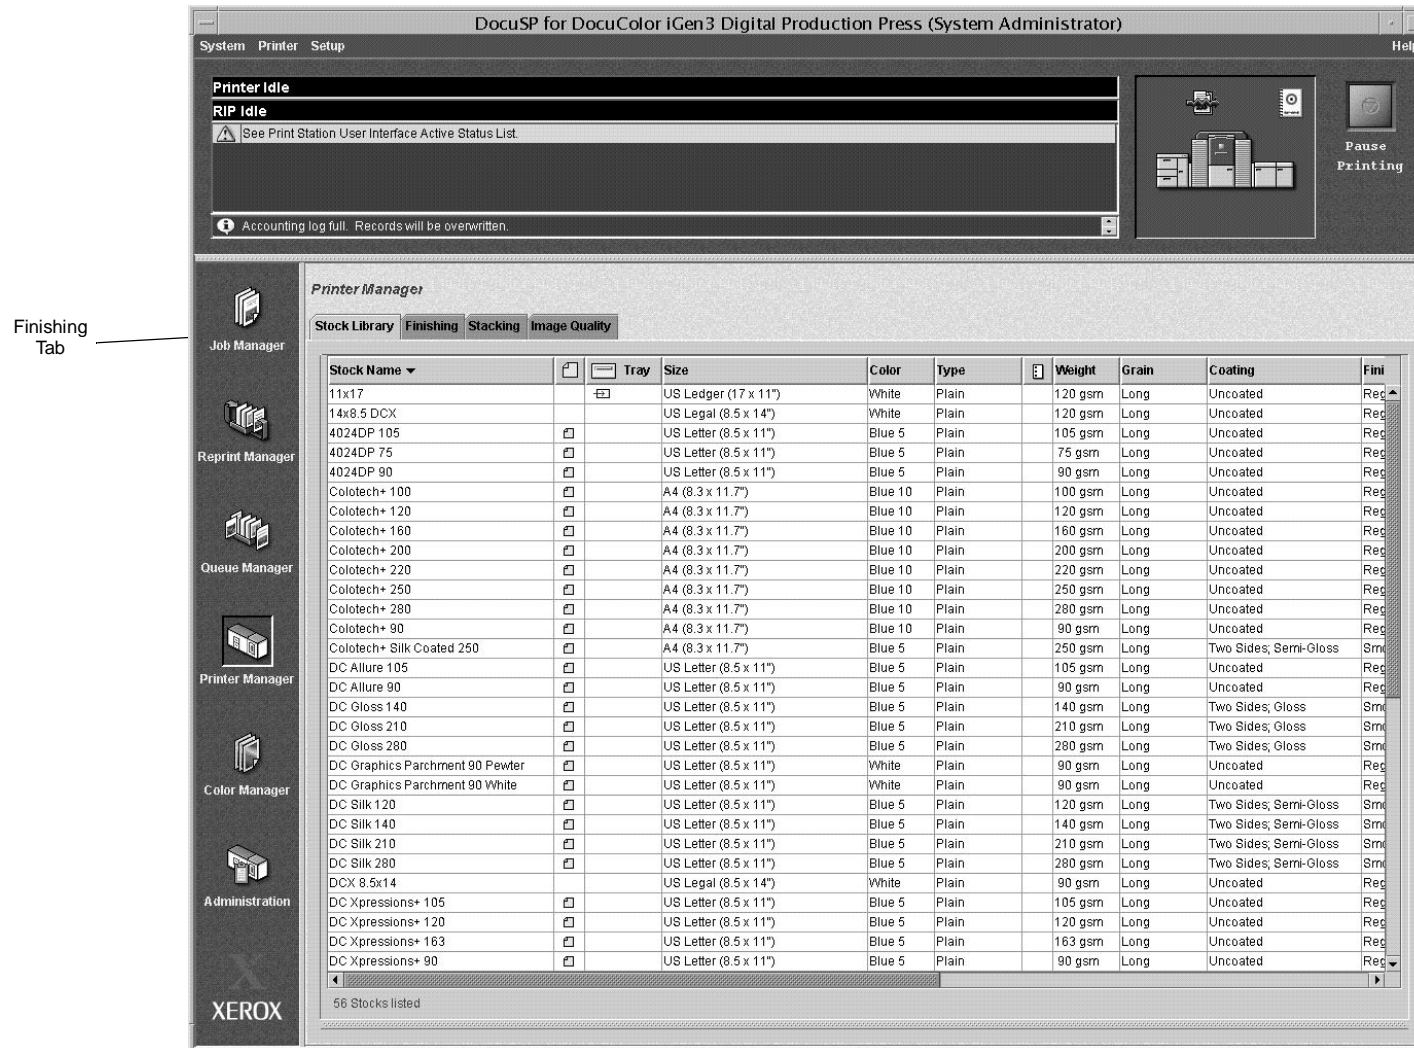

Figure 6-34 The Printer Manager Window
This will display the **Printer Manager** Window, as shown in Figure 6-34.
2. Select the **Finishing** Tab, as shown in Figure 6-34.